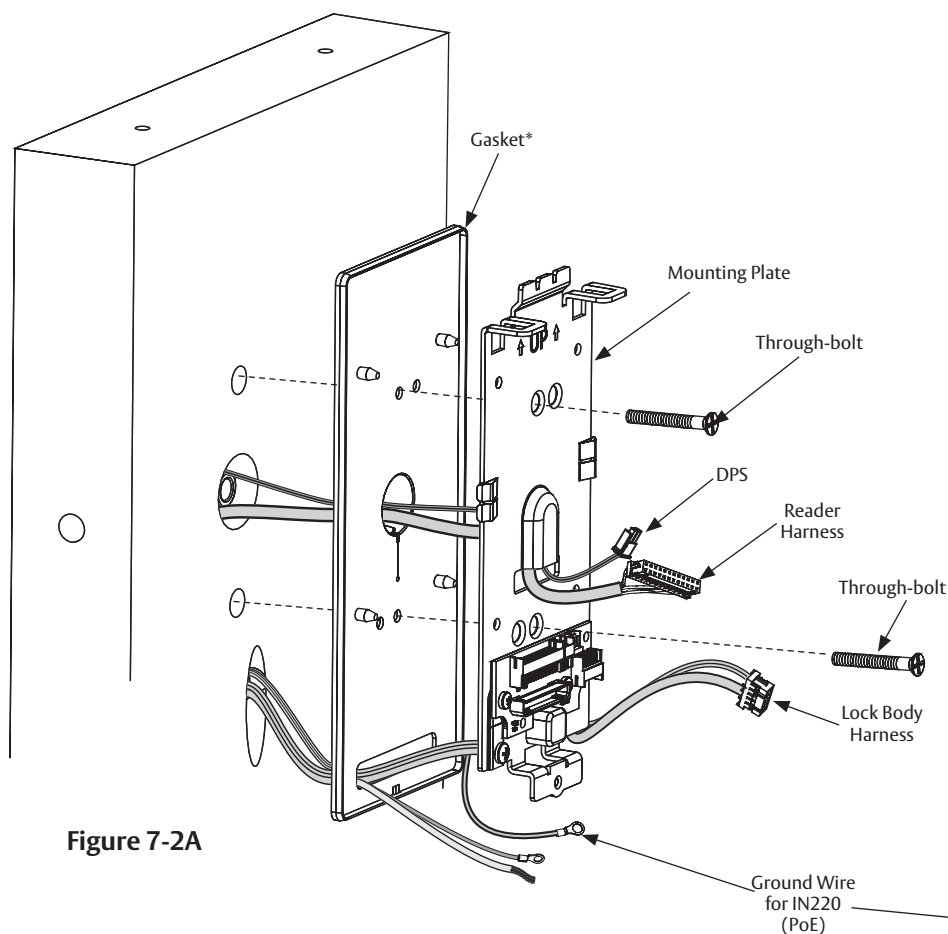

Figure 7-2A
2. Insert and partially tighten two (2) through-bolts prior to installation of connectors.
3. Secure ground lug(s) with #6-32 machine screw. (Figure 7-2A)